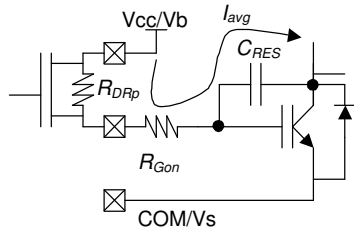

Figure 21: RGon Sizing
**Switching-Time:** For the matters of the calculation included hereafter, the switching time  $t_{sw}$  is defined as the time spent to reach the end of the plateau voltage (a total  $Q_{gc} + Q_{ge}$  has been provided to the IGBT gate). To obtain the desired switching time the gate resistance can be sized starting from  $Q_{ge}$  and  $Q_{gc}$ ,  $V_{cc}$ ,  $V_{ge^*}$  (see Fig. 21):